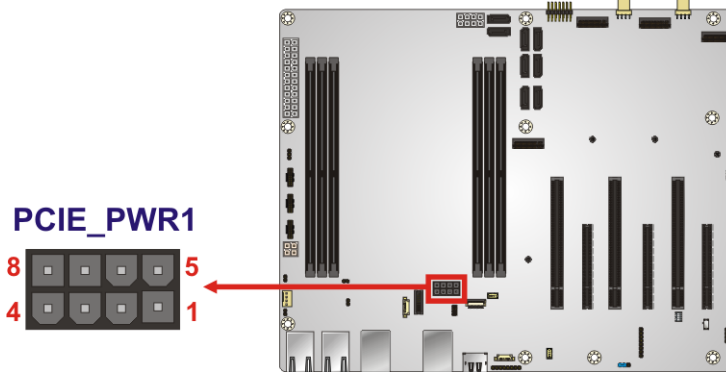

Figure 3-18: PCIe Power Connector Location
- CN Location:** See **Figure 3-18**